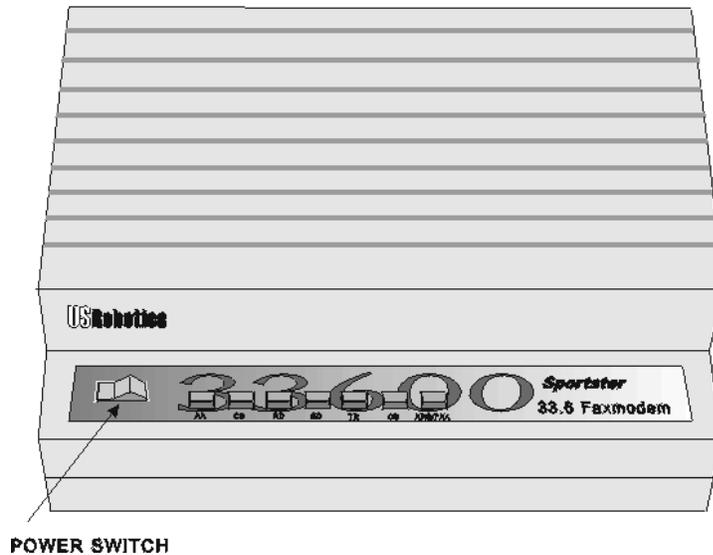

Figure 8-2: Front of Modem
3. Replace and lock the printer cover. See Figure 8-2.
7. Slide the AccuVote-OS unit onto the guide rails in the recessed opening in the ballot box lid. Do not slide the unit all the way to the back. Note the positioning of the AccuVote-OS prior to being slid onto the ballot box lid in Figure 8.2.